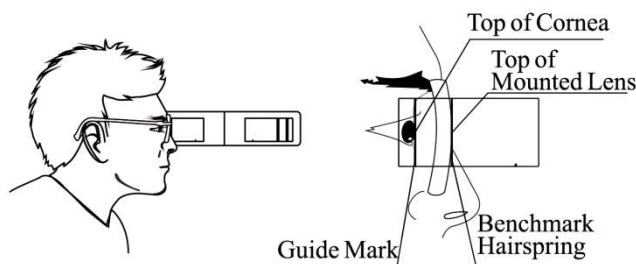

Fig. 9a Fig. 9b
- The optician makes inspection standing by the side of the testee, and the latter is preferably situated against the light. Place the instrument in the horizontal level (see Fig.9a), and target the guide mark at the top of cornea of the testee.